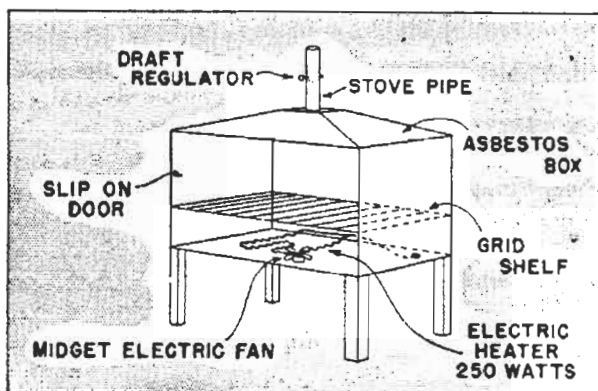

FIG. 18. A drying oven.
► In larger shops, where work of this sort may be done more often, an outfit like the one shown in Fig. 18 may be used. The asbestos-lined box may be constructed from wood or